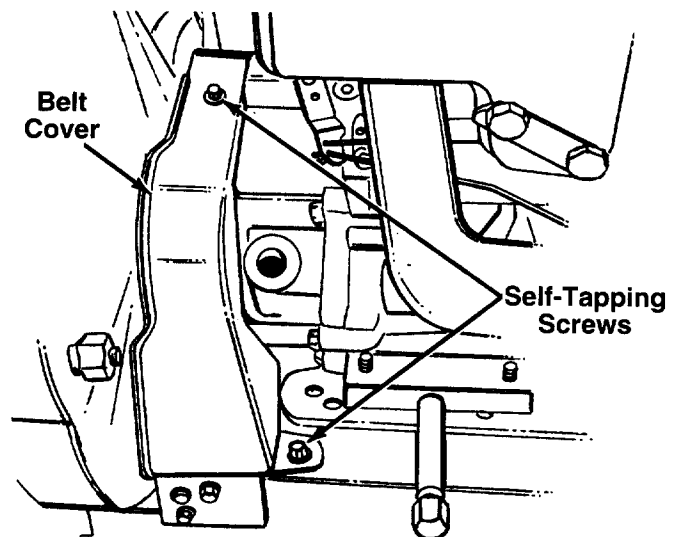

FIGURE 21.
- Remove the belt cover on the front of the engine by removing the two self-tapping screws. See figure 21.
- Remove the plastic belt cover on the front of the engine by removing two self-tapping screws. Refer to figure 21.